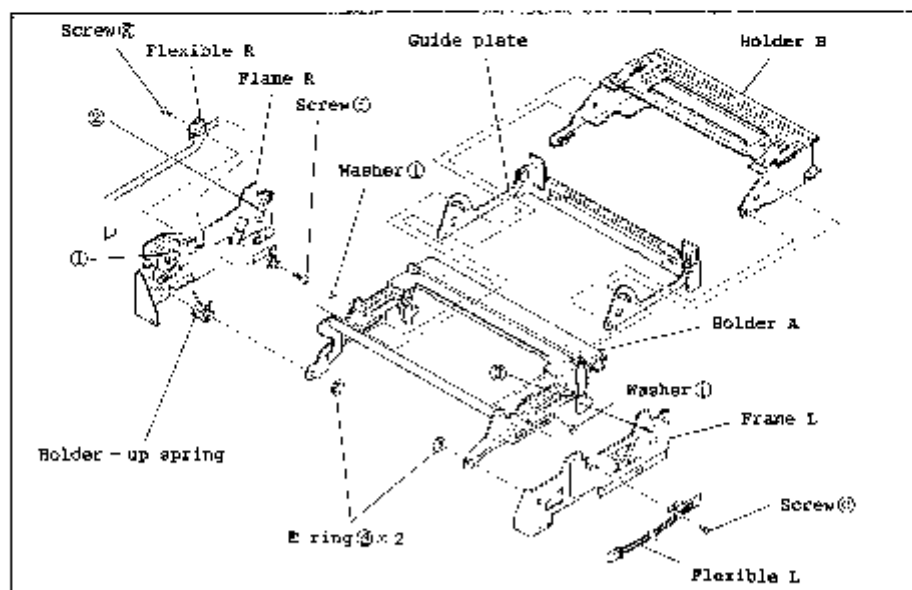

Fig. III-3-A
2. When replacing the Frame R, apply the EL-4 (grease) on the positions of (1) and (2) indicated respectively by arrows. (Fig. III-3-A)
3. When replacing the Frame L, apply the Grease EL-4 on the positions (3) indicated by arrows (Fig. III-3-A)
5. Holders A, B and Guide Plate (Fig. III-3-C)